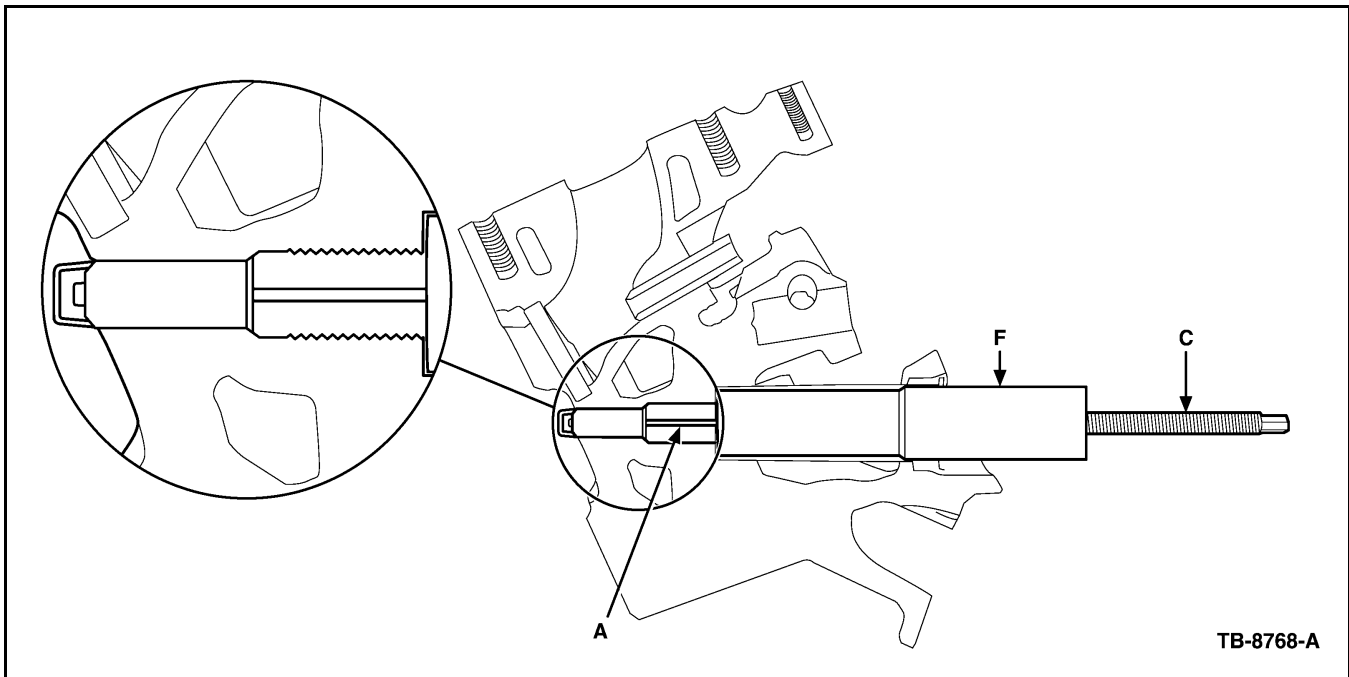

Figure 15 - Article 069-2008-1155
5. Insert the completed assembly into the spark plug well and fully engage the pin into the porcelain. (Figure 15)